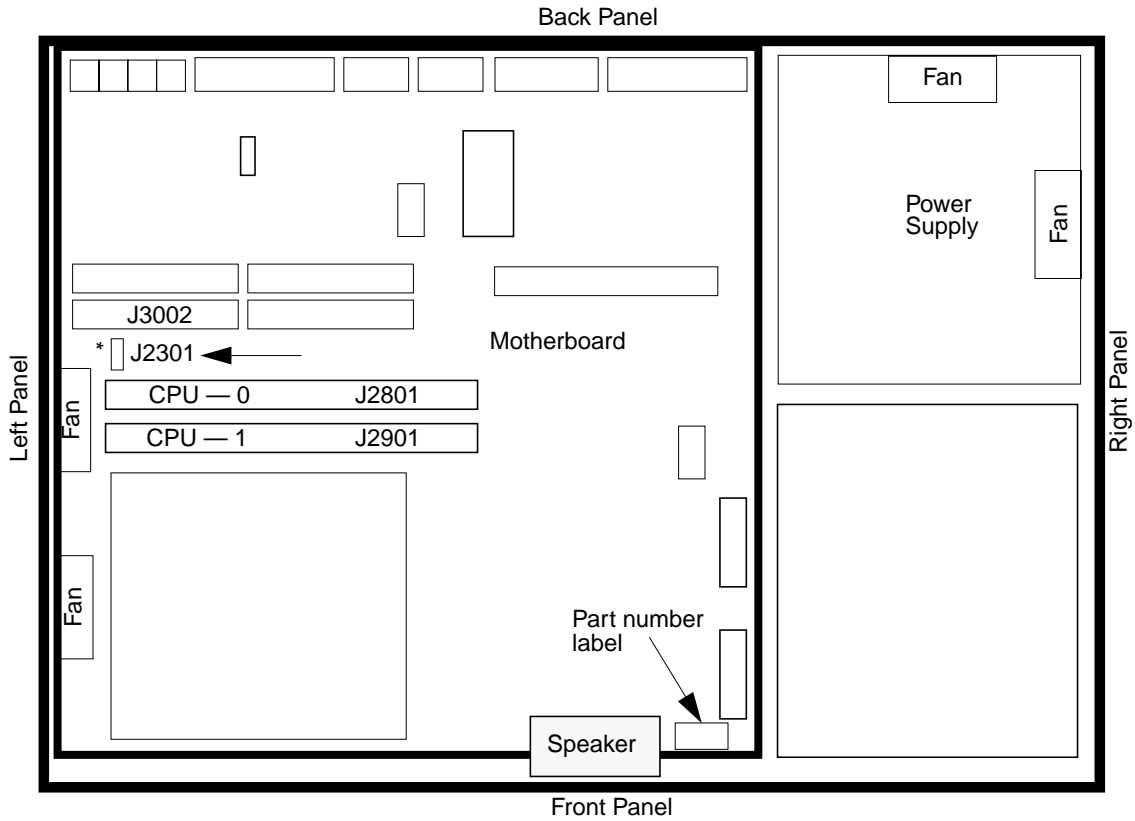

FIGURE 3-6 Clocking Select Jumper Location on Ultra 2 Motherboard
**Note** – The motherboard part number is located on the right front side of the motherboard. See FIGURE 3-6 on page 8 to locate the motherboard part number stamp.